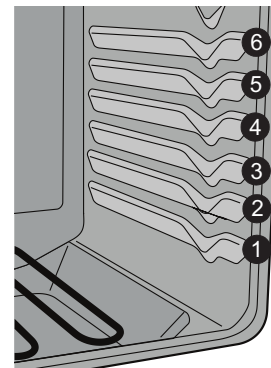

Figure 21: Rack positions for visible bake and hidden bake elements
- For best results when baking cakes using two oven racks, place racks in positions 3 and 5 (See Figure 21).